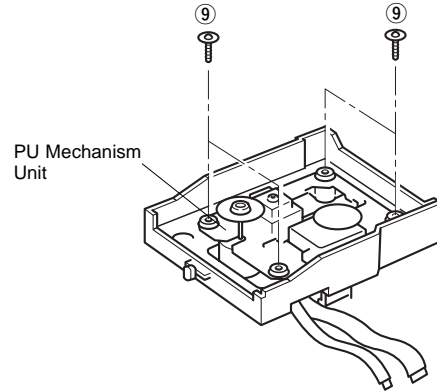

Fig. 5
- b. Pull out 4 Pins (⑨) and then remove the PU Mechanism Unit as shown in Fig. 5.